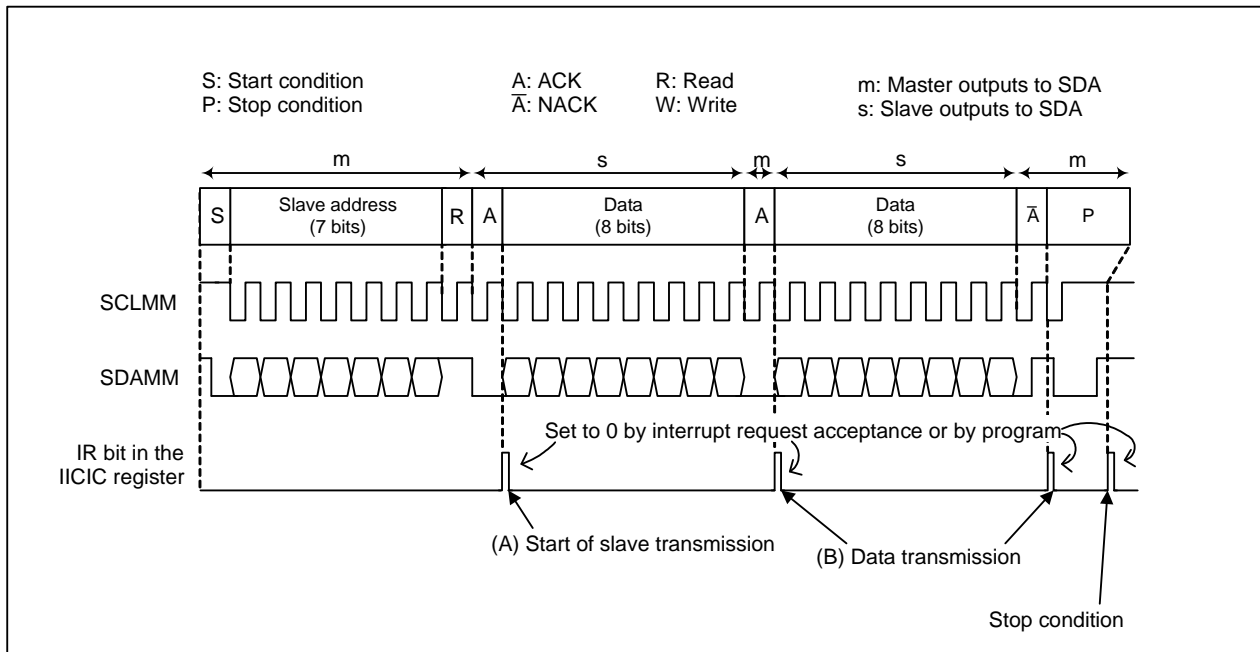

Figure 22.20 Example of Slave Transmission
Slave transmission is described in this section. The initial settings described in 22.3.10.1 "Initial Settings" are assumed to be completed. Figure 22.20 shows the example of slave transmission. The following programs (A) to (B) are executed at (A) and (B) in Figure 22.20, respectively.